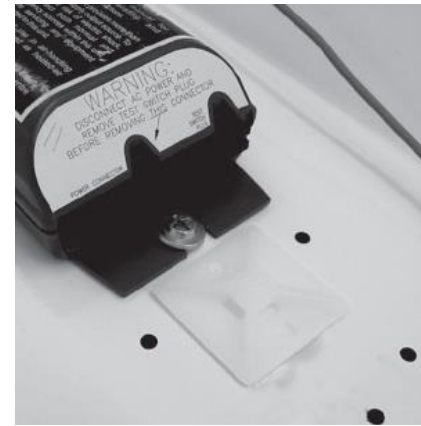

Figure 2
2. Inspect Battery Pack and make sure the TSPL connector ⑤ is not connected. If so, disconnect it before installation of the Battery Pack.
3. Position the unit in the fixture wireway and fasten securely through the Mounting Slots ②. If necessary, drill holes and mount with sheet metal cutting screws (not provided)
4. Attach a flat wire tie holder as shown in Figure 2
6. Attach and fully engage the Quick Disconnect Wire Harness Plug ⑧ into the Battery Pack Power Connector ⑨. Inspect that the Wire Harness Plug is squarely seated against the Battery Pack Power Connector.